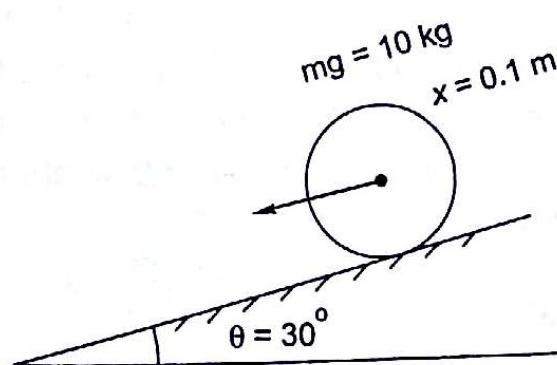

Fig. 19.18
19.3 A disc of radius 0.1 m, mass 10 kg rolls down an inclined plane with $\theta = 30^\circ$, without slipping and gains a velocity of 5 m/s. How much distance along the plane is covered? $g = 9.81 \text{ m/s}^2$ (Fig. 19.18)